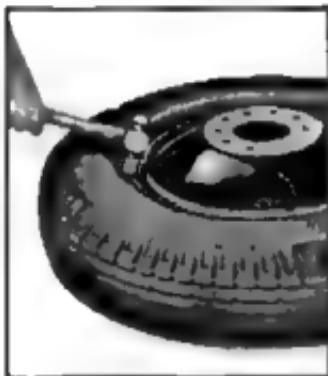

Fig. 71—Releasing Tire Clamp Ring
2. Using a hammer, tap around the side ring progressively to move it in toward the center of the rim until it clears the clamp ring (fig. 71).